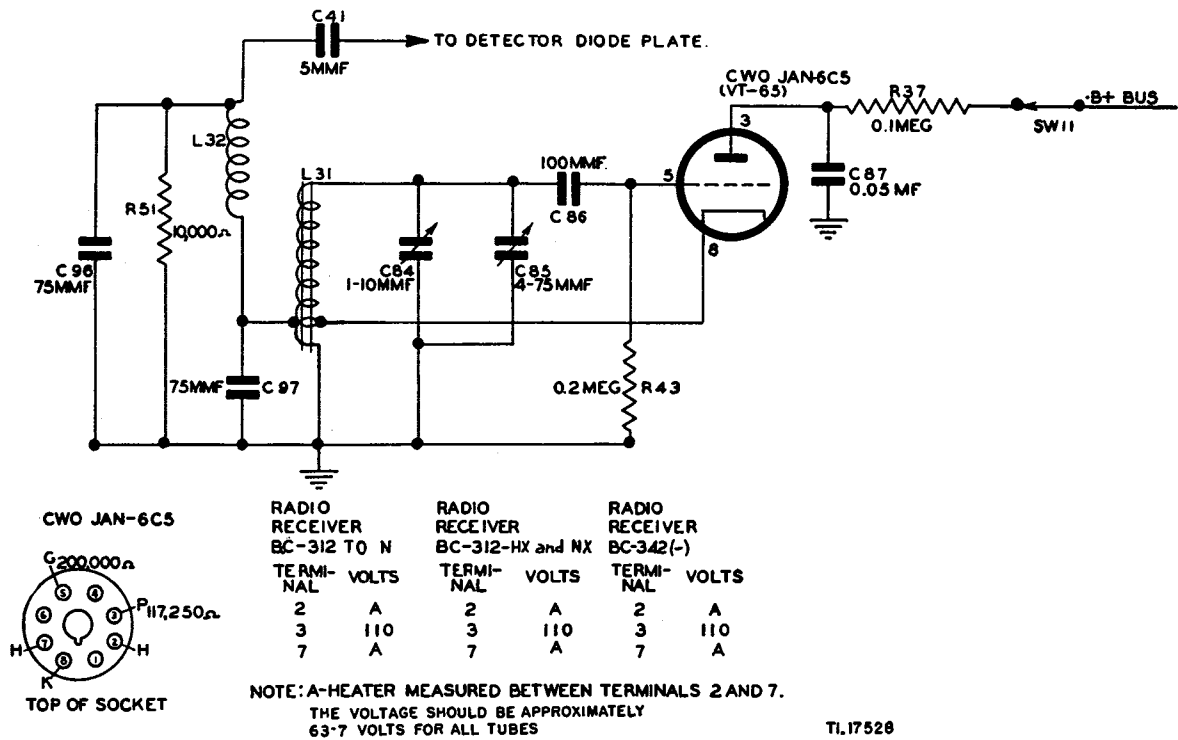

Figure 29. C-w oscillator, schematic diagram.
b. VOLTAGE AND RESISTANCE MEASUREMENTS. The voltage and resistance measurements shown in figure 29 are made in the manner and under the conditions listed in paragraph 42b.